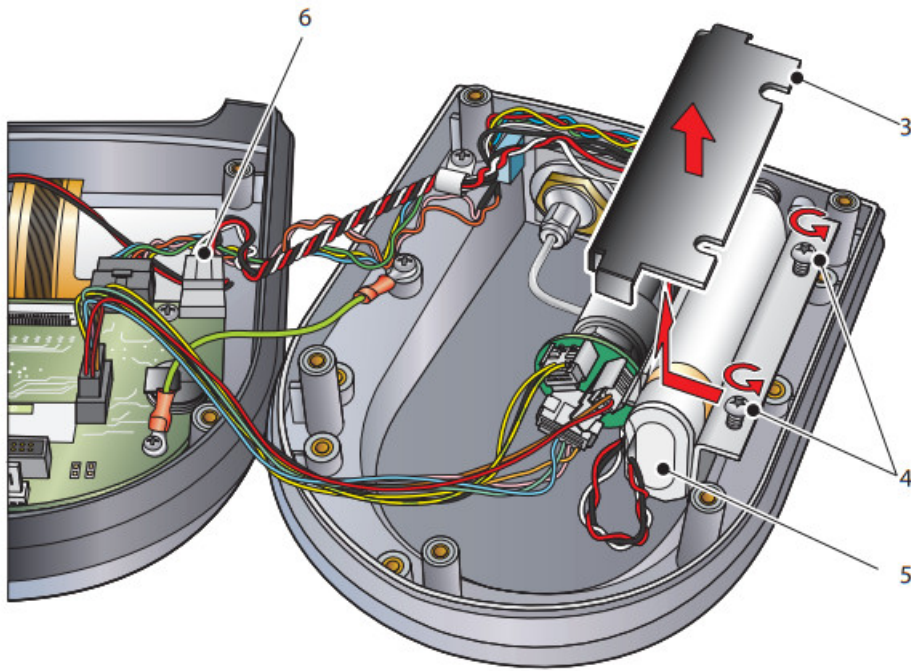

Figure 4 *Remove Battery Clamp*
2. Loosen the battery clamp retaining screws (4) and lift the battery clamp (3) clear as shown in Figure 4.
3. Release the clip on top of the polarized battery connector (6), on the main MDM PCB.
4. Lift the battery (5) clear.
1. Fit the battery connector socket section (6) back into the plug section on the PCB, push the two halves of the connector together and ensure that they lock together.
2. Place the replacement battery (5) in the position shown in Figure 4.
3. Re-fit the battery clamp (3) and tighten both fixing screws (4).